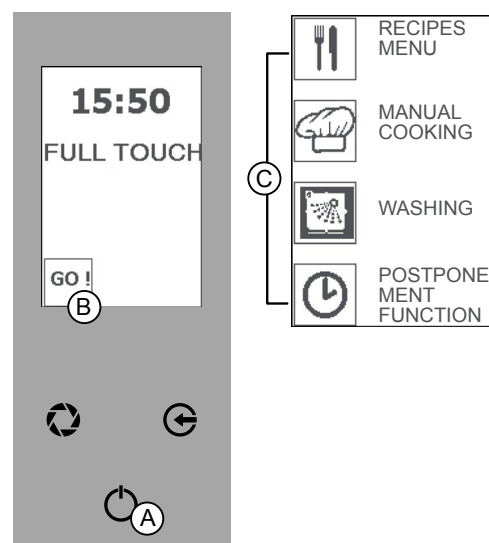

Fig.1
The “ENTER” key (Fig.1/A) can be selected to perform three different functions:
- STAND BY mode: display switched off and “ENTER” key lit up (Fig.1).
- “HOME PAGE” mode: display switched on, clock shown and “ENTER” key lit up (Fig.1).
- “MAIN MENU” MODE: functions shown (RECIPES MENU - MANUAL COOKING - WASHING - POSTPONEMENT FUNCTION - Fig.1/C).